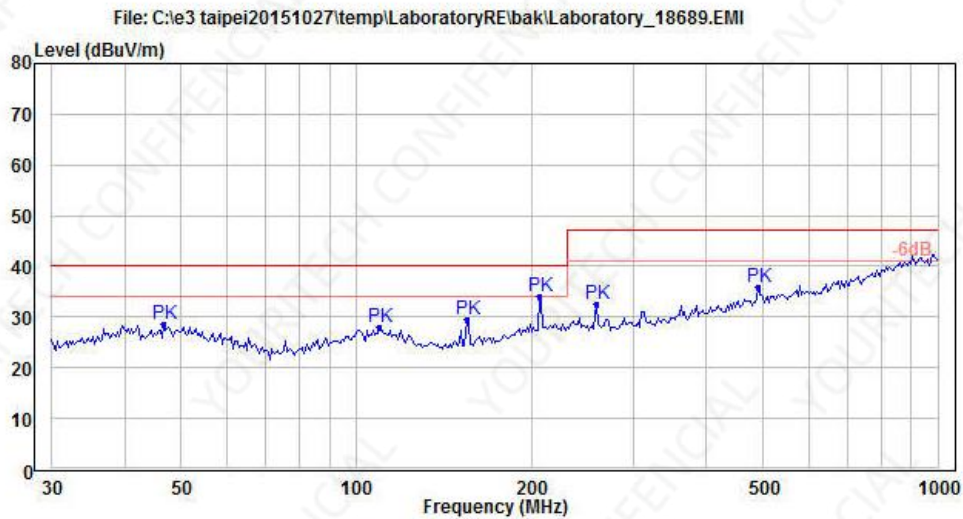

Figure 5-6: Horizontal direction of the radiation test
1. Radiation test horizontal test data, as shown in Figure 5-6